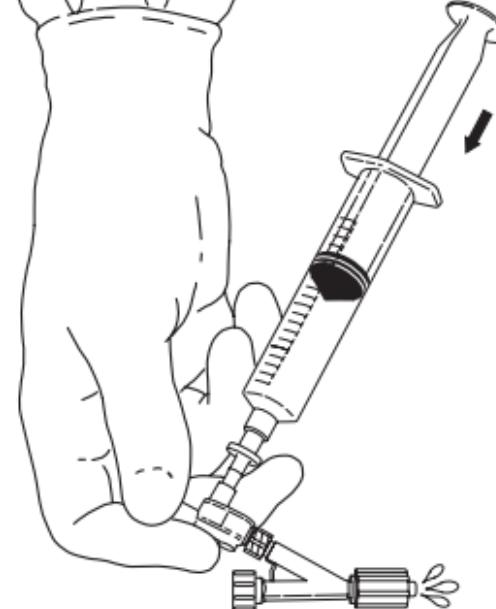

Fig. 3
5. Purge the remaining air by placing a thumb over the injection port. Slowly flush the remaining air bubbles out of the dual check valve and Tuohy-Borst adapter. (**Fig. 3**)